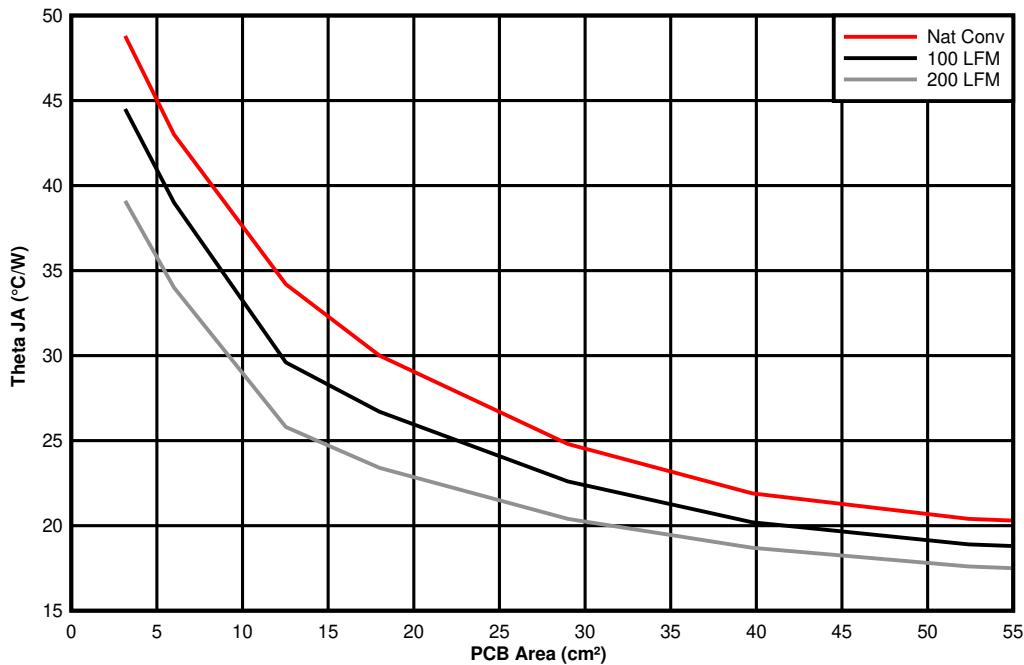

Figure 11-5.  $\theta_{JA}$  vs PCB Area
The amount of PCB copper as well as airflow effects the thermal performance of the device. Figure 11-5 shows the effects of copper area and airflow on the junction-to-ambient thermal resistance ( $R_{\theta JA}$ ) of the TPSM5601R5Hx. The junction-to-ambient thermal resistance versus PCB area is plotted for a 4-layer PCB.
3. Reference Figure 11-5 to determine the minimum required PCB area for the application conditions.